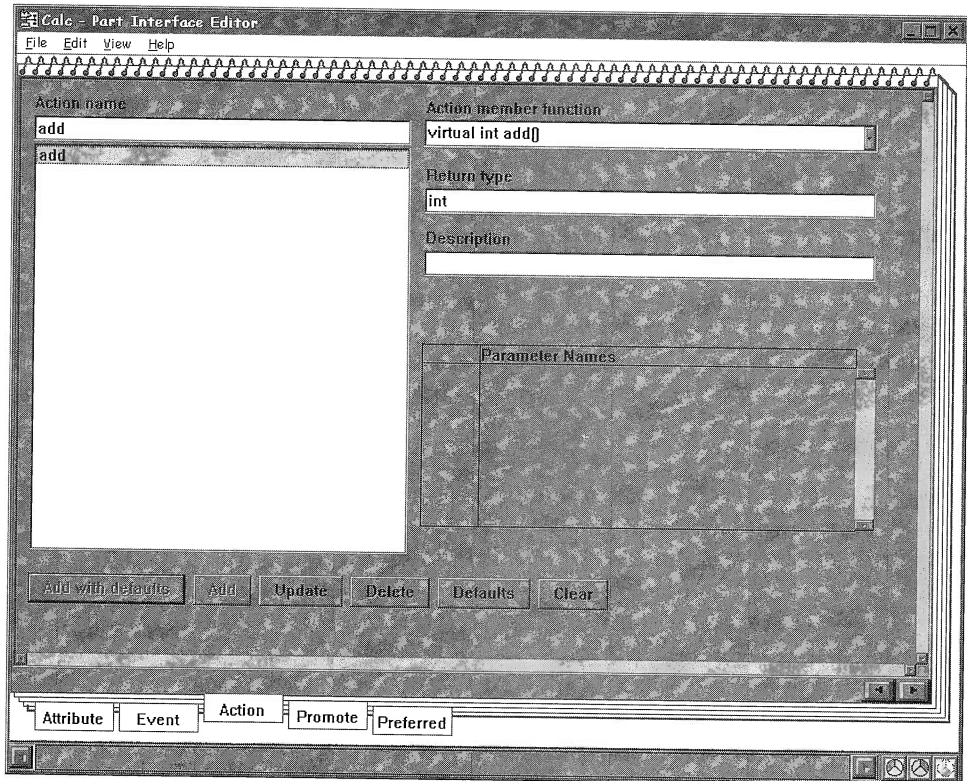

Figure 56: Part Interface Editor, Actions page
- ❑ Select the **Action** tab of the PIE notebook to switch to that page, see Figure 56.